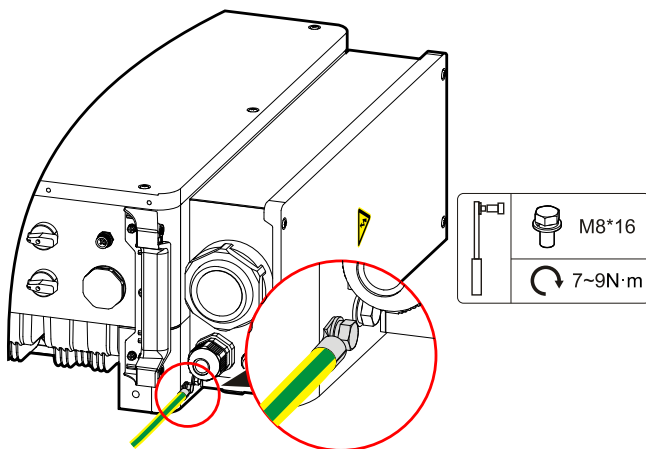

Figure3-27 Ground connection diagram
Step 2 Connect the crimped grounding wire to the external grounding terminal at the bottom of the inverter, as shown in Figure3-27.